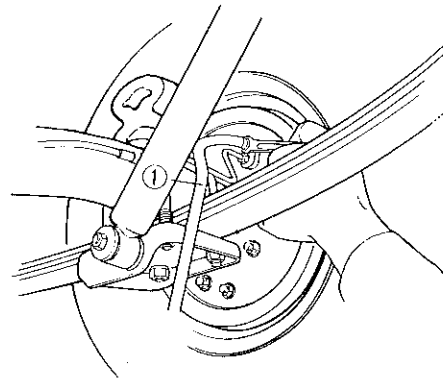

Fig. 18-39
5) After reinstalling all the parts which has been removed and disassembled, purge the air from the brake system as shown in Fig. 18-39.